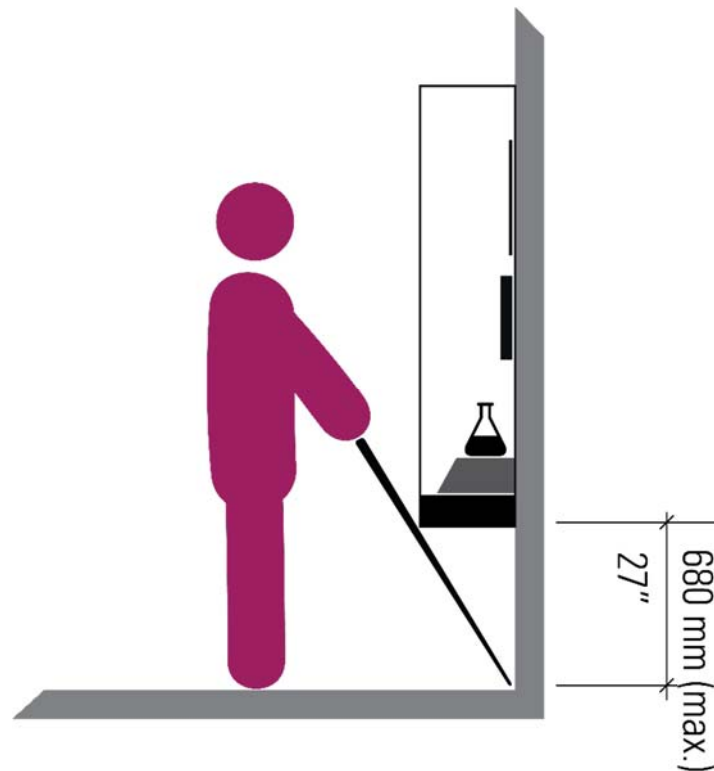

Figure 1.5.1 Adult using a cane to detect a wall mounted obstruction
- Wall mounted cases must start below 680 mm, making their bottom edge cane detectable (see Figure 1.5.1, p.9)